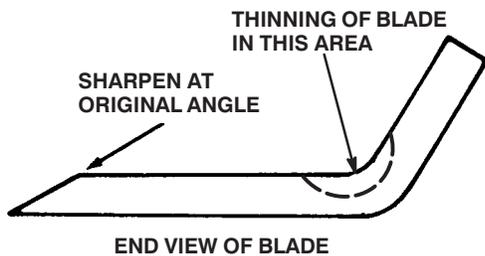

Figure 25
- 5. Using a file, sharpen cutting edge at both ends of the blade (Fig. 25).